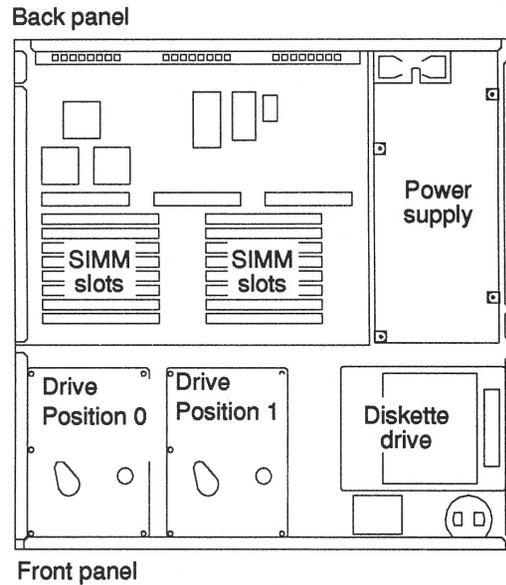

Figure 2-2 SPARCstation 2 system and Subassemblies (Top View)
Figure 2-2 shows the various subassemblies of the SPARCstation 2 system, including the power supply. The left, front area of the chassis is reserved for two hard disk drives.
2. **Attach the end with the adhesive copper strip to the metal casing of the power supply in the system unit. Refer to figures 2-2 and 2-7.**